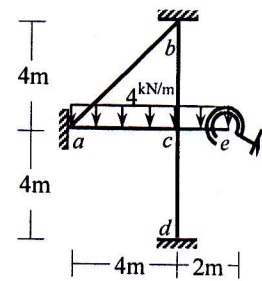

Fig. 9(b)
12. Use the Stiffness Method (neglect axial deformations) to calculate the vertical deflection at joint e and rotation at joint c of the frames loaded as shown in **Fig. 9**, if the support at e is a